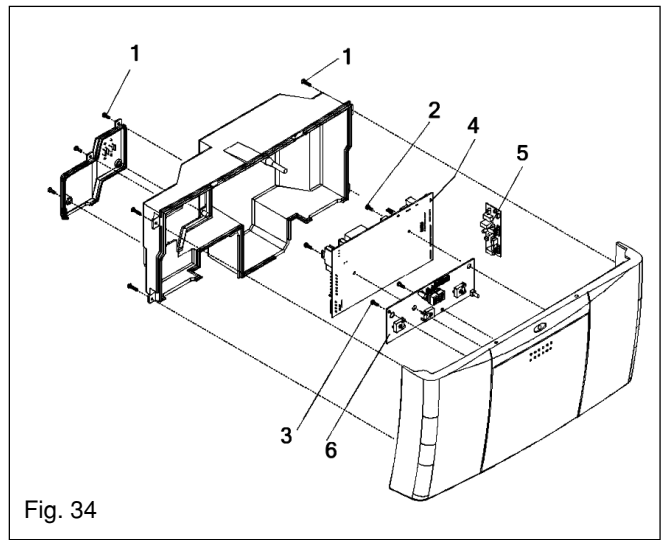

Fig. 34
6.12 PRINTED CIRCUIT BOARD (see fig. 34)